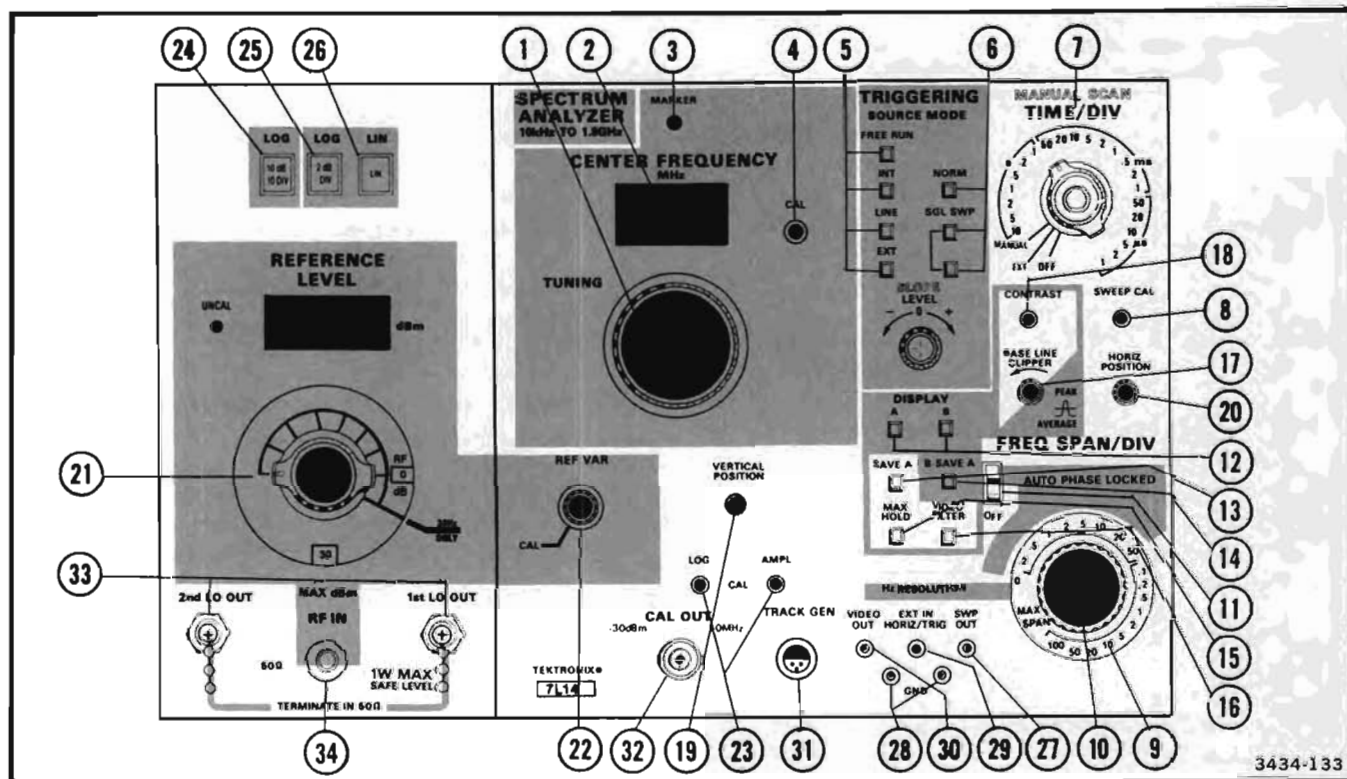

Fig. 2-1. Front-panel controls.
*A safety latch must be released before the 7L14 can be pulled from the oscilloscope compartment. The unit will pull out part way when the front panel release (see Fig. 2-1) is pulled, then the spring safety latch must be pushed up to free the unit completely. This safety latch is located underneath the right rail, near the front corner.*
The following describes the function of the controls, indicators, and connectors on the front panel of the 7L14. Figure 2-1 illustrates their location.